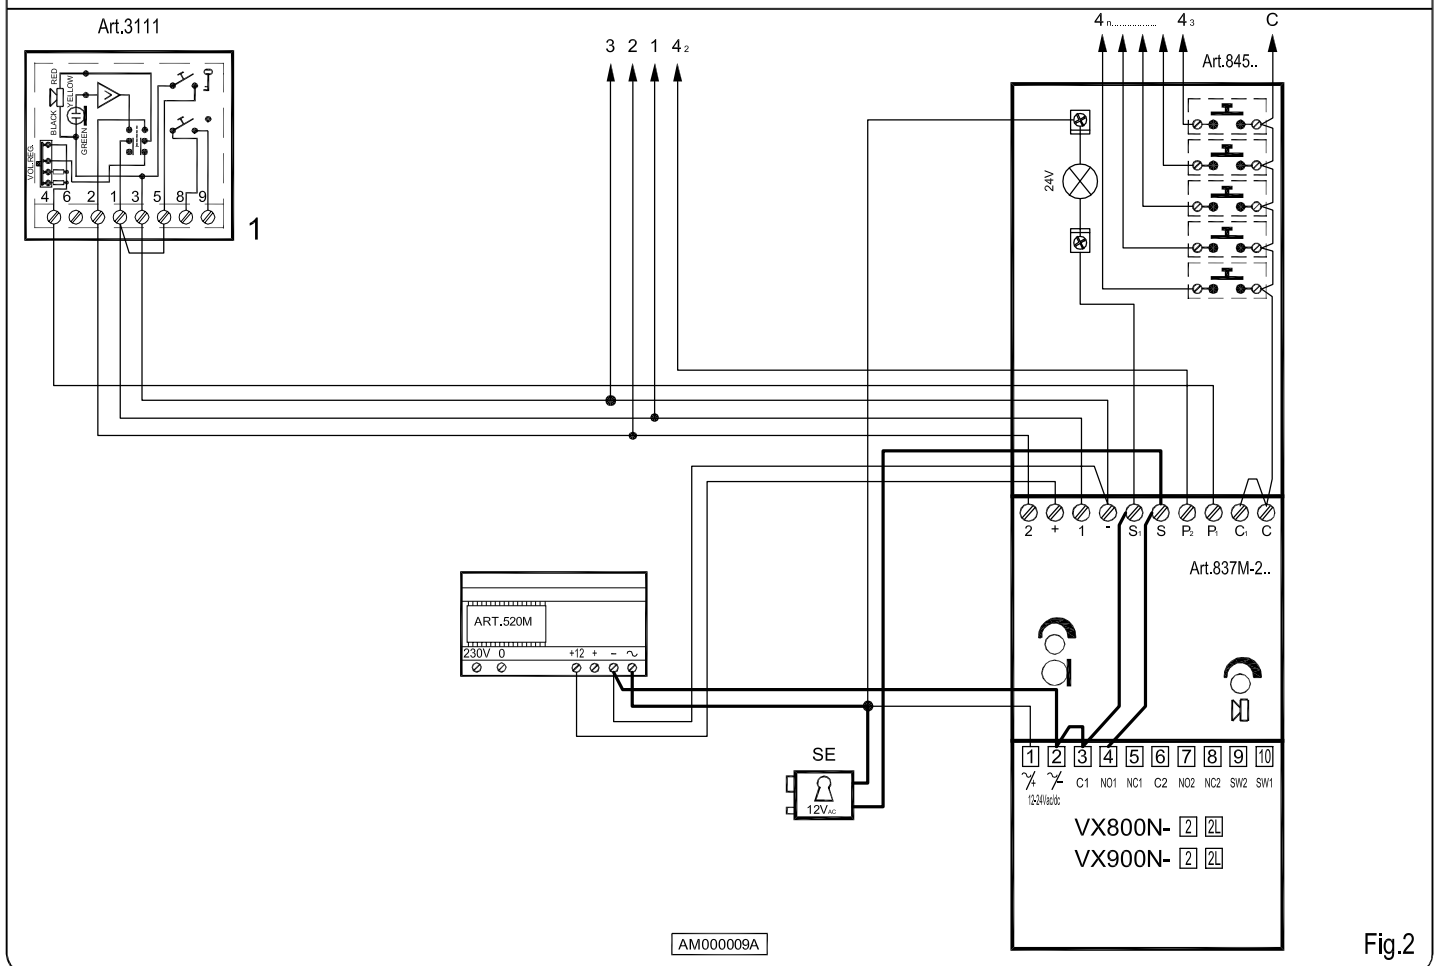

Fig.2
- Installation of a digital code lock module (see page 38 fig.2);
- Installazione di un modulo "apri-porta" a codice (vedi pag.38 fig.2);
ONE ENTRANCE WITH DIGITAL CODELOCK AUDIO DOOR ENTRY SYSTEM FOR "N" USERS (FIG.2)
The figure 2 diagram shows the standard system on page 32 with the addition of a digital codelock module. This system works like the one on page 32 but in addition, each user can open the door by typing the secret code on the keypad. Digital codelock modules have at least 2 relays and up to 60 codes depending on the version: the diagram shows how one of the relays opens the door while the second can be used to enable an extra service like gate opening etc.
and the following for figure 2
- Installation of an extension sounder (see page 23 fig.2);
- Installazione di una suoneria supplementare (vedi pag.23 fig.2);